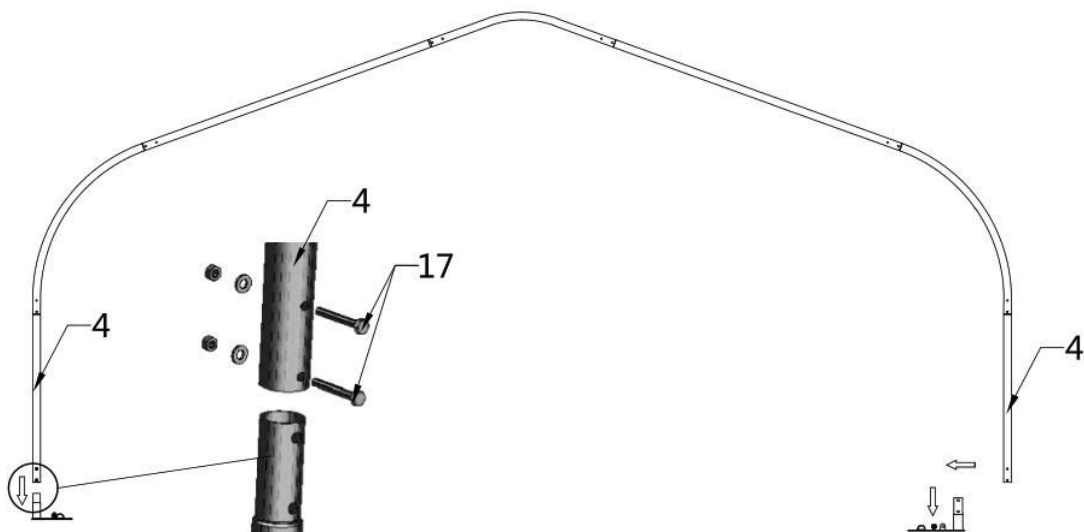

Figure 6
- Use of a crane or forklift is recommended, otherwise a team can use ropes to lift the truss, but you have to make sure it is safe, and have enough manpower. We recommend 3 to 5 people to pull the truss up from different directions. When the truss is up, tie the ropes to the heavy objects to make sure the truss will stay upright and use bolt (#17) to connect the truss to the baseplate on both sides (refer to Figure 6)
- Parts used in this step : (4) Hex bolt (#17)